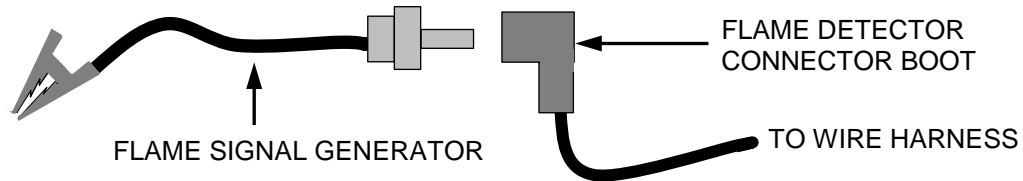

Figure 6.5: Connecting the Flame Signal Generator
- f) Push the **BACK** button three (3) times to return to the upper level menu.
- g) When the Controller gets into the ignition phase, the Control Panel will show **IGNITION TRIAL**. At that point attach the alligator clip (see Figure 6.5) to any bare metal surface or ground. The C-More display should now show **FLAME PROVEN** and begin to ramp up to 100% fire rate. Note that no gas or flame is present in the boiler at this time.